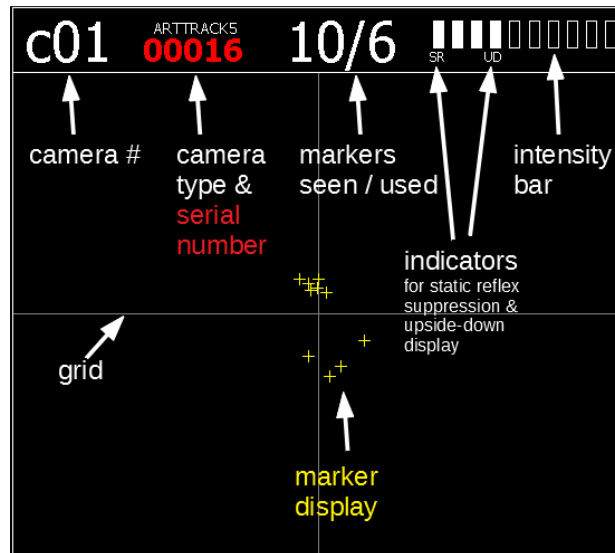

Figure 6.9: *DTRACK3 Monitor 2DOF display* elements
Each marker is either displayed as a circle or as a cross. This indicates the projected size of the marker on the camera sensor and depends strongly on the distance to the camera, see figure 6.9 on page 48.
**Recommendation** Increase the flash intensity until all markers become yellow or green (*Hardware* → *Cameras* → '*flash intensity*'). Additionally pay attention to the intensity bar on the top right corner of each camera monitor, see figure 6.9 on page 48. This indicates